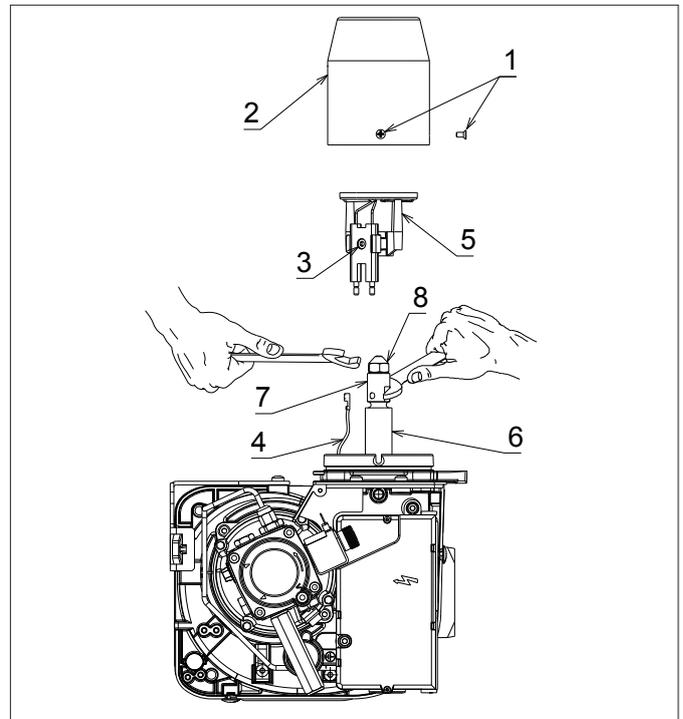

Figure 10-2: Burner head, diffuser and nozzle holder
4. Remove the burner head. Refer to Figure 10-2. Loosen the three fixing screws (1) and remove head (2) from burner.
6. If the nozzle needs to be replaced - remove the diffuser/electrode assembly. Refer to Figure 10-2.
- Using a 4 mm Allen key, loosen the diffuser fixing screw (3) on the electrode assembly.
- Lift diffuser/electrode assembly (5) up and off the nozzle holder.
- Disconnect both ignition leads (4) from the electrodes.
7. Use a 16 mm spanner to remove/re-fit the nozzle (8), whilst holding the nozzle holder (6) using a 19 mm spanner.
8. Re-fit the diffuser/electrode assembly. Refer to Figure 10-2.
- Reconnect ignition leads (4) to electrodes.
- Re-fit the diffuser/electrode assembly (5) onto the nozzle holder lining up the fixing screw with the recess in the nozzle holder.
- Tighten the fixing screw (3) to secure the diffuser/electrode assembly in place on the nozzle holder.
10. Re-fit the burner head. Refer to Figure 10-2.
- Locate the head fixing screws (1) in the countersunk slots in the burner collar.
- Tighten the three screws (1) to secure the head (2) in position on the burner.